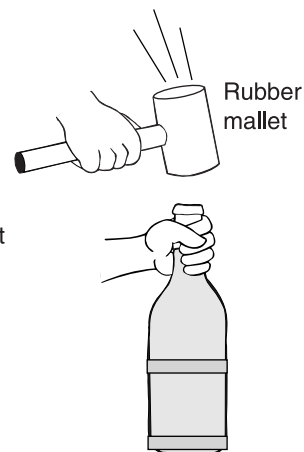

Figure 2.
3. Firmly strike the top opening of the bottle with the rubber mallet. Make sure the end of the rubber mallet strikes the opening squarely (see Figure 2). *(The bottom of the glass bottle should break and fall into the glass disposal container along with the water.) Caution:* If the bottom of the bottle does not “fall out” with the first blow, but the bottle's body or the lip cracks or chips—do NOT strike the bottle again. Use a new bottle.